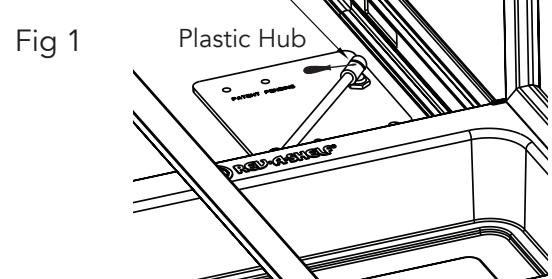

Fig 1 Plastic Hub
2) Use the #8 x 3/4" Phillips head screws provided to secure the unit to the floor. The slide system can be separated if necessary to aid in installation, but removal is not required (See Fig 1 and Fig 2).